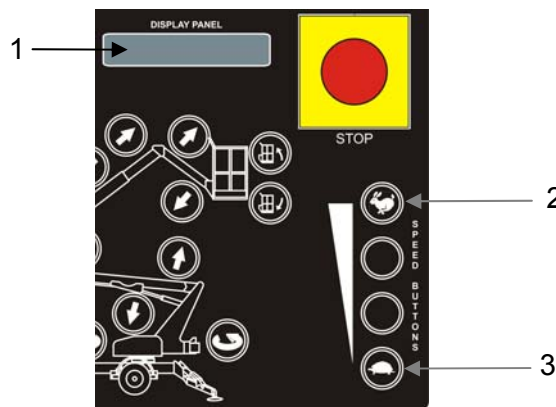

Figure 4-5. Display Run Time Hours
- Repeat every 100 RUN hours, or annually, which ever comes first. Run hours are displayed by simultaneous pressing (pushing) the **RABBIT (2)** and the **TURTLE SPEED (3)** buttons on the ground (lower) control panel and reading the **DISPLAY PANEL (1)**. Refer to Figure 4-5.